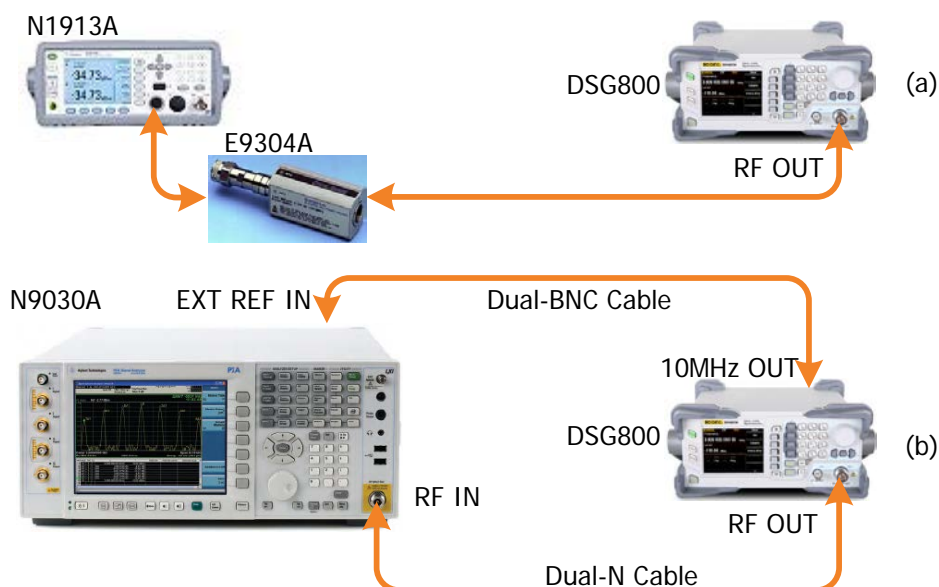

Figure 2-1 Amplitude Accuracy Test Connection Diagram
2. Connect the output terminal of DSG800 with the power sensor, as shown in Figure 2-1 (a).
6. Connect the output terminal of DSG800 with the input terminal of the signal analyzer using a dual-N cable as shown in Figure 2-1 (b).
11. Keep the connections shown in Figure 2-1 (b) unchanged, press **Mode Preset** to restore the signal analyzer to its factory setting and set the output amplitude of DSG800 according to Table 2-2.